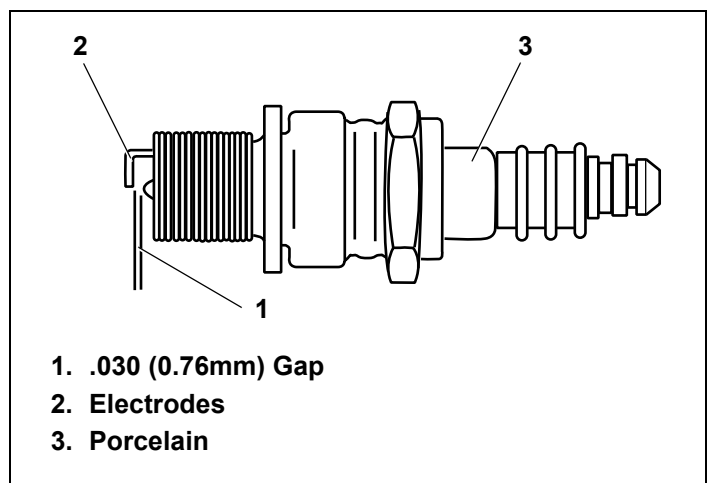

Figure 17. Spark Plug
4. Check electrode gap with wire feeler gauge and set gap to .030 (0.76mm) if necessary. See Figure 17.